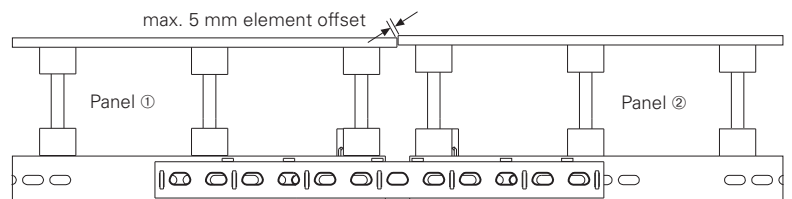
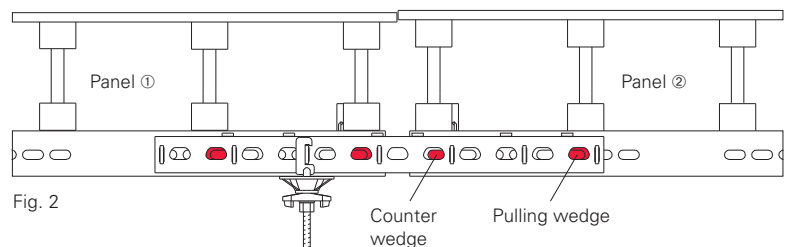

Fig. 1
Fig. 2
- The smaller side of the trapezoidal-shaped cut-outs points to the concreted side. (Fig. 1)
- With element offsets, mount Alignment Clamp VRS on Panel ① positioned to the rear.
- Release pulling wedge on Panel ②.
- Use counter wedge to slightly open the formlining joint on Panel ②. (Fig. 2)
- Loosen pulling and counter wedges on Panel ①.
- Tightly close joint on Panel ② with counter wedge.